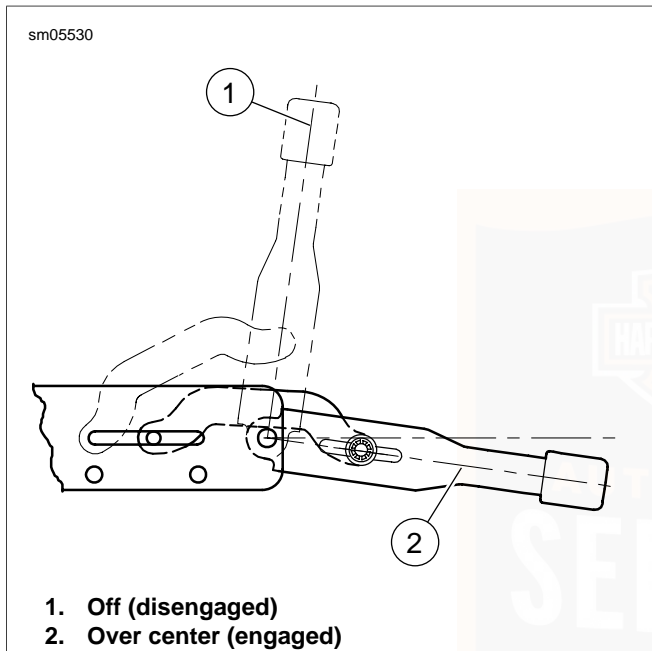

Figure 50. Park Brake Positions
5. See Figure 50. The rear brakes should hold securely and the vehicle should remain still. Check position of the parking brake lever (should be in over center position). See ADJUSTMENT to adjust parking brake as necessary.
1. See Figure 50. With vehicle on level ground, move parking brake lever to OFF position.